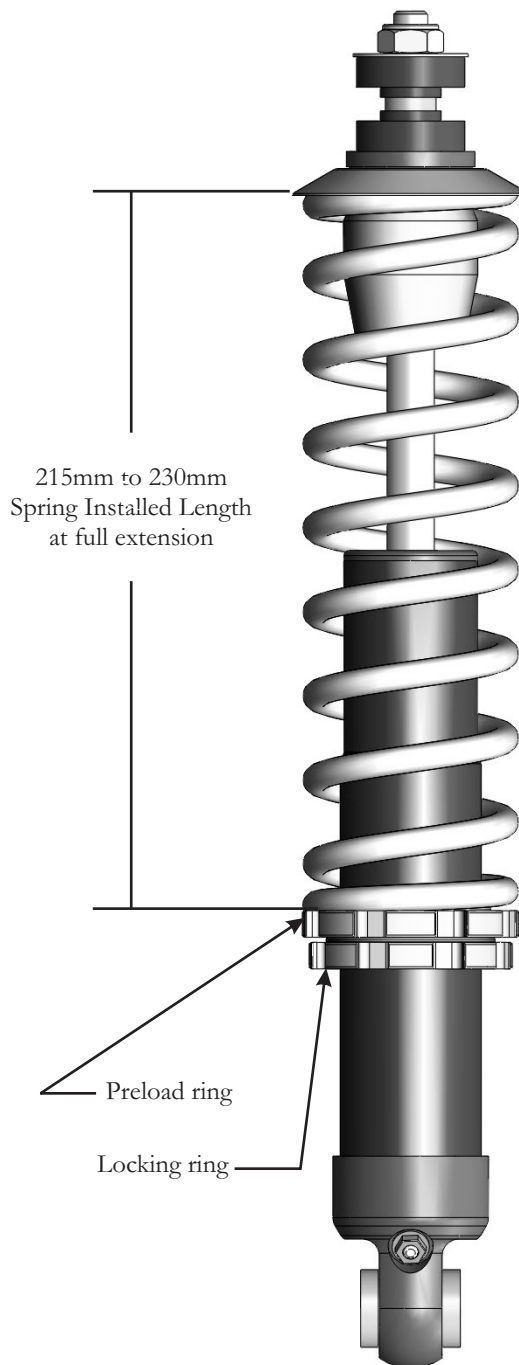

Figure 5
4. Spring pre-load adjustments are made with the supplied preload adjusting wrench by first loosening the lower locking ring, then adjusting the upper preload ring (figure 5). Once the proper preload has been achieved, re-tighten the locking ring against the adjusting ring. With the shock fully extended, the spring installed length must never be adjusted to a length longer than 230mm (9.06") or shorter than 215mm (8.46").